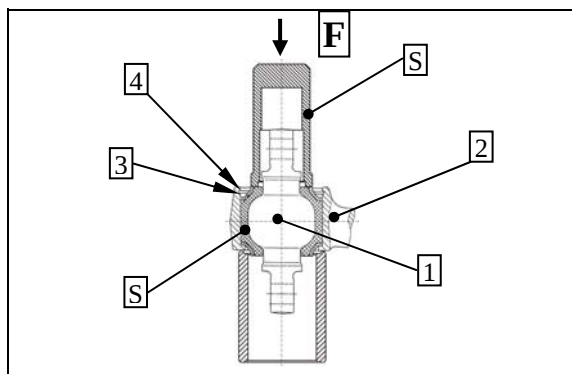

Figure 1
Install ball stud (1) and joints (2) according to Figure 1 - 14.